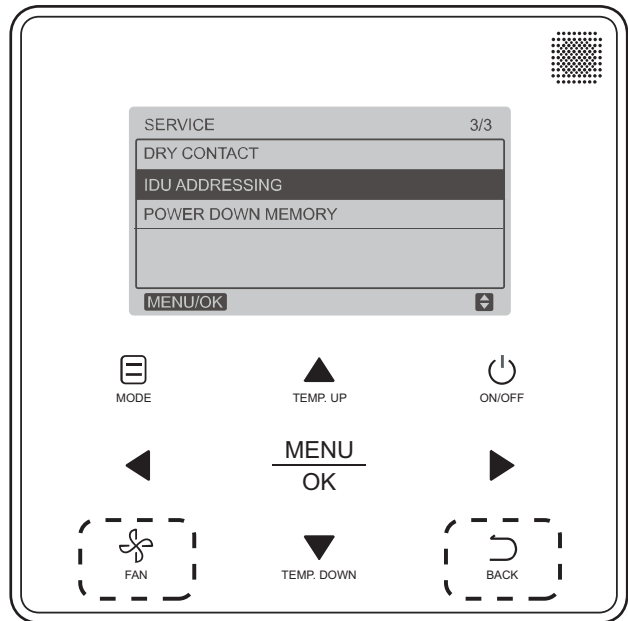

Fig. 25 — Programmable Controller (40VM900003) IDU Addressing Menu
1. Press **FAN** and **BACK** simultaneously for 5 seconds to access parameter settings as shown in Fig. 25.